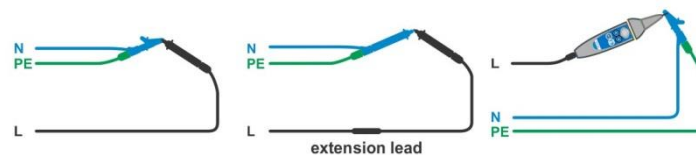

Figure 7.33: Shorted test leads
- › Connect test cable to the instrument and short all test leads together, see **Figure 7.33**.